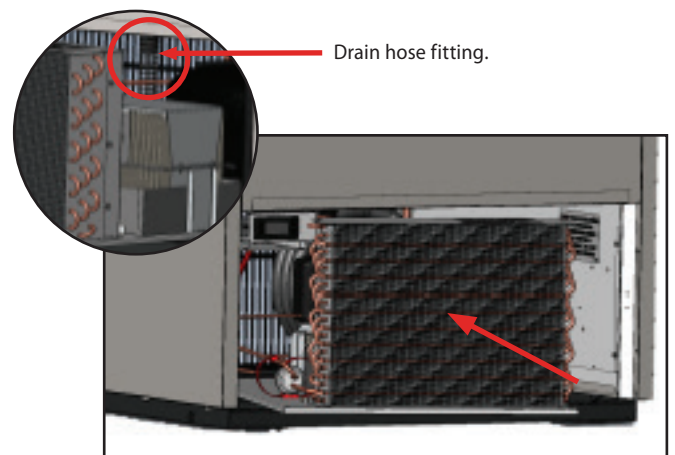

Fig. 6. Rotate the condensing unit to the left.
7. Rotate the front of the condensing unit to the left to allow the compressor to clear the condensate drain hose fitting. See fig. 6.